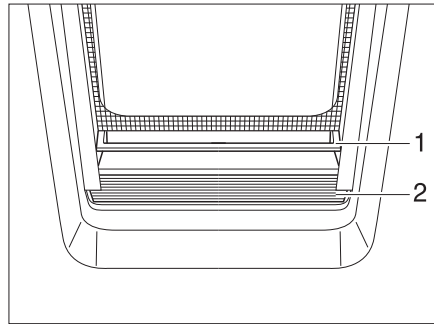

Fig. 48 Roman shade
- Grip the Roman shade (Fig. 48,2) in the middle of the holding bar (Fig. 48,1), pull it upwards and then release it at the desired height. The Roman shade will stay at this height.